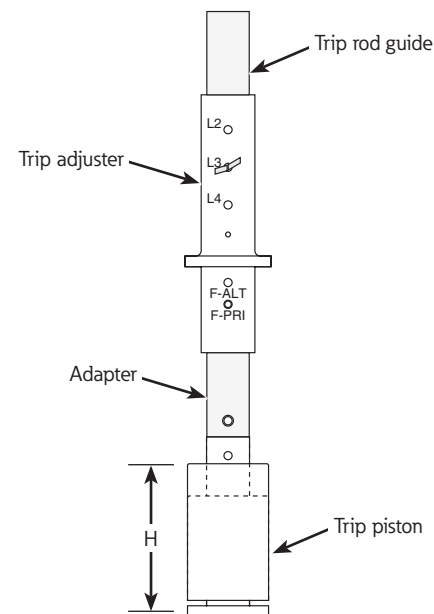

Figure 1. Sequence Selector assembly
The height (H) of the trip piston (see Figure 1) allows different timing sequences, as specified in Table 2.